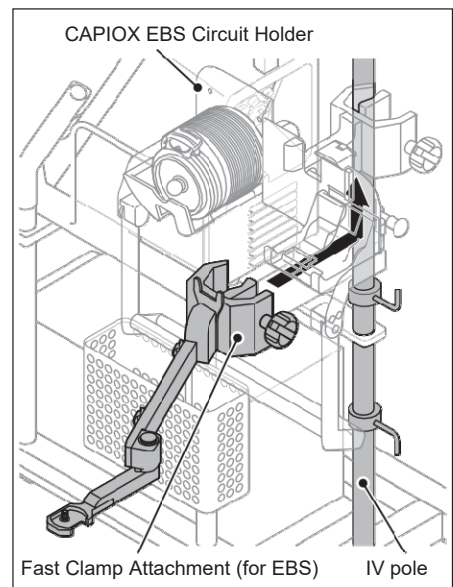

Figure 1-19
1. Lower the handle of the CAPIOX EBS Circuit Holder, and insert the Fast Clamp Attachment (for EBS) as shown in the figure. (Figure 1-19)